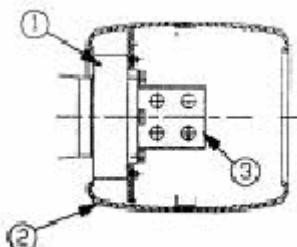

**Fig.1** \* not allow to remove these screws
- 4.2 Some special screws in the bushing can't be removed otherwise the gas tight property will be deteriorated. see Fig.1